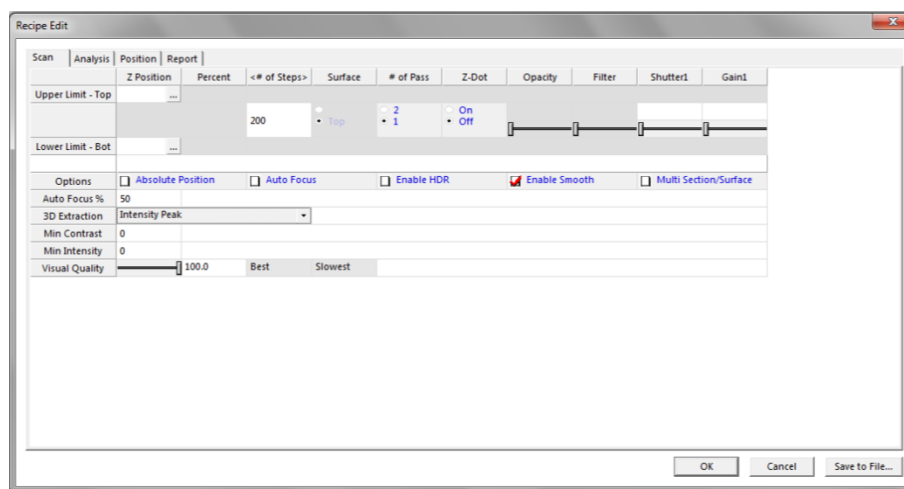

Fig. 48. Recipe settings for interferometer
9. In the recipe Scan Parameters, set the number of scans to 1 Pass and the Z-Dot setting to OFF, as shown in Fig. 48. For interferometry, the 3D Extraction parameter is set to either "Intensity Peak" or "Intensity Valley." This choice is determined by the specific X5 objective on your system and a default recipe with the correct option is provided by Zeta applications.